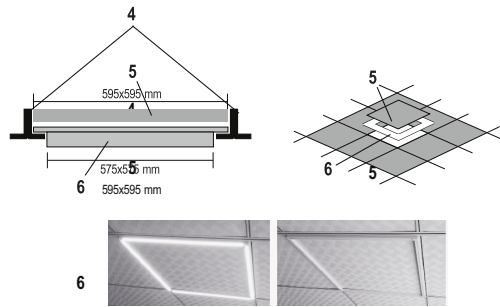

figure 2. • 2. ábra • 2. obraz • figura 2. • 2. skica • 2. obrázek • 2. slika
- Remove the ceiling tile as shown in **Figure 2**.